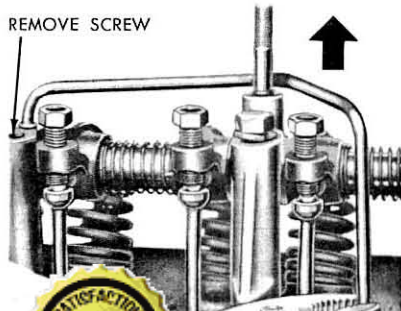

FIG. 10
6. Remove the cap screw and bracket from the No. 6 valve rocker arm shaft support. Pull the oil inlet line out of the support, then pull it out of the block with pliers (Fig. 10). Be careful not to damage the line.